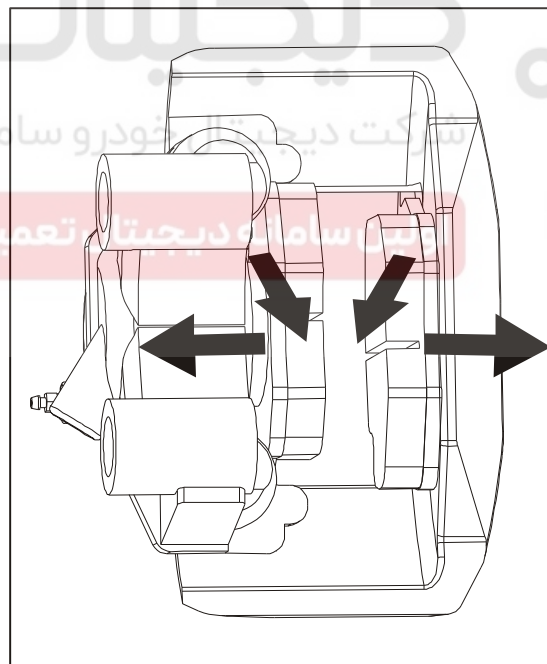

Fig.5-13 Removal of brake block
3) In the direction shown in Fig.5-13, remove external and internal brake blocks respectively.